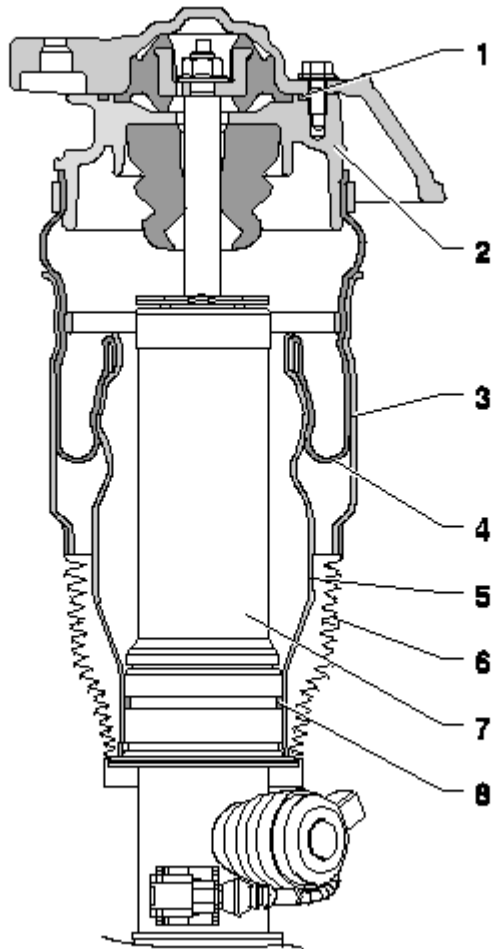
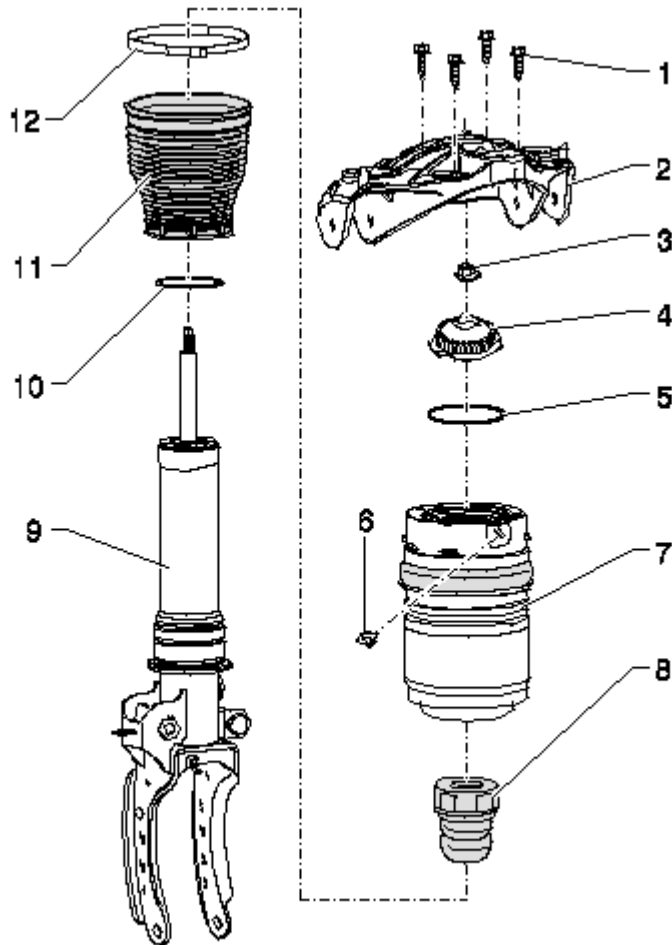

Fig. 35: Front air-spring strut
Fig. 36: Component arrangement of front air-spring strut
NOTE: The components of the air spring -7- (figure shows component arrangement of front air-spring strut), Items -2, 3, 4, 5- (figure shows front air-spring strut), cannot be disassembled. See Fig. 36, Fig. 35.
- Always replace the complete air spring -7- (figure shows component arrangement of front air-spring strut)! See Fig. 36.